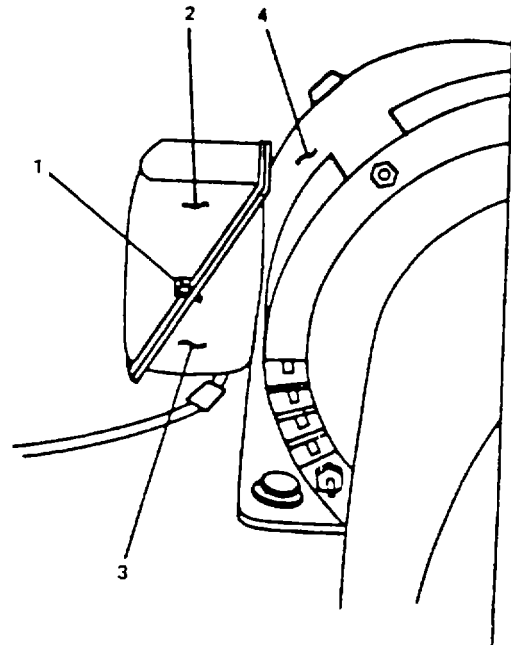
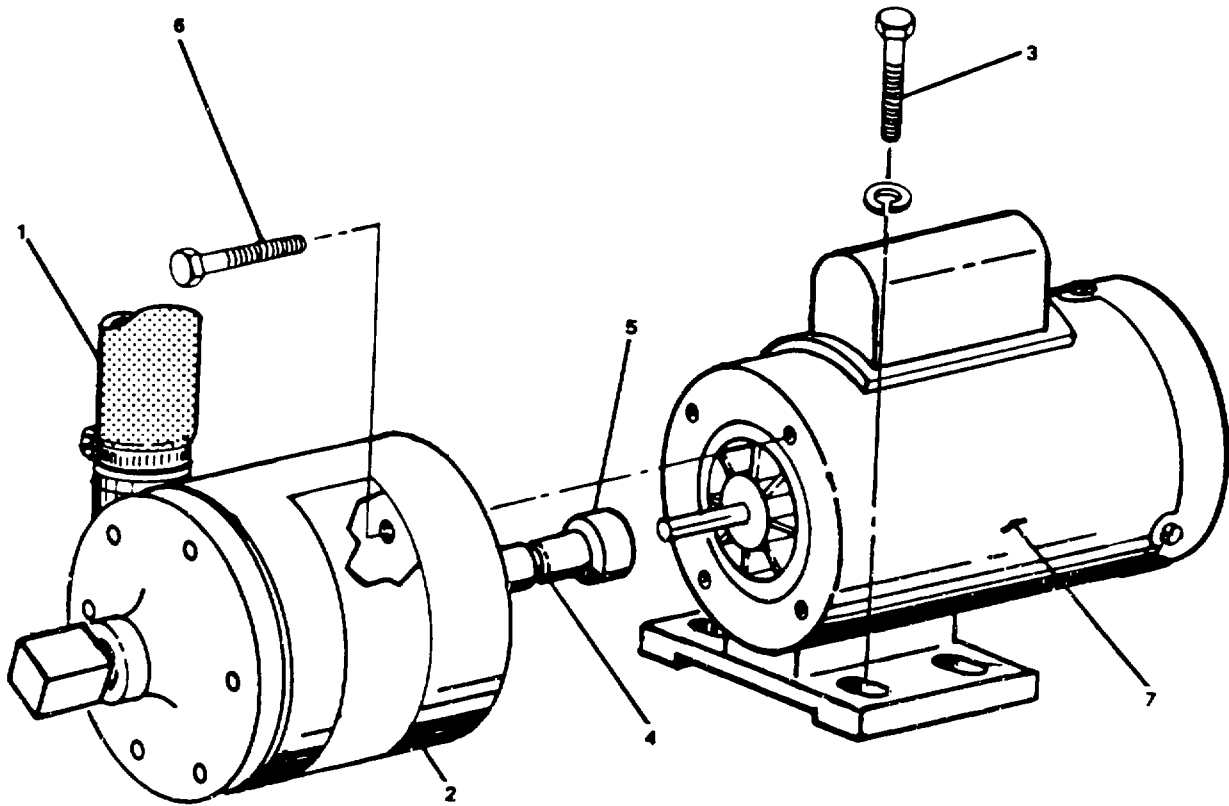

Figure 2-142. Electrical Junction Box.
Figure 2-143. Low Pressure Pump Motor.
- a. Remove screws (1, Figure 2-142) holding electrical junction box cover (2). Remove cover.
- c. Loosen two hex setscrews (5) on motor pump coupling (4).
- d. Remove four bolts (6) holding pump (2) to motor (7).
- a. Install pump (2, Figure 2-143) on motor shaft by sliding towards motor (7).
- b. Install four bolts (6) to hold pump to motor (7). Tighten bolts.
- c. Tighten two hex setscrew (5) on motor pump coupling (4).
- e. Install four bolts (3) to secure motor base to rear of pump frame. Tighten bolts.
- f. Connect 3/4-inch flexible hose (1) to pump (2).
- g. Place electrical junction box (3, Figure 2-142) with associated electrical wiring cable over junction box opening in motor frame (4). Secure junction box (3) to motor frame (4) with associated hardware.
- i. Install electrical junction box cover (2) with screws (1). Tighten screws.